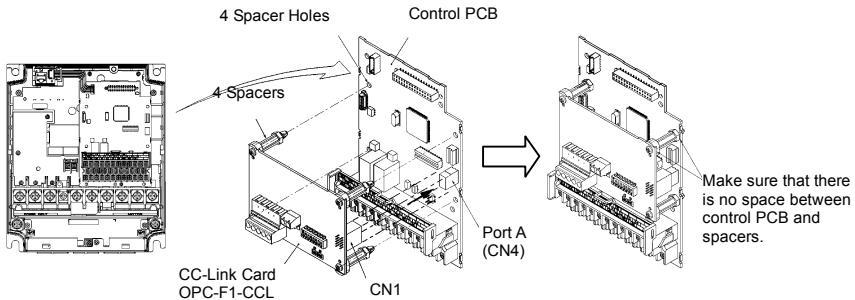

Figure 3 FRN7.5F1S-2J -
- (1) Remove the covers from the inverter to expose the control printed circuit (Figure 3).